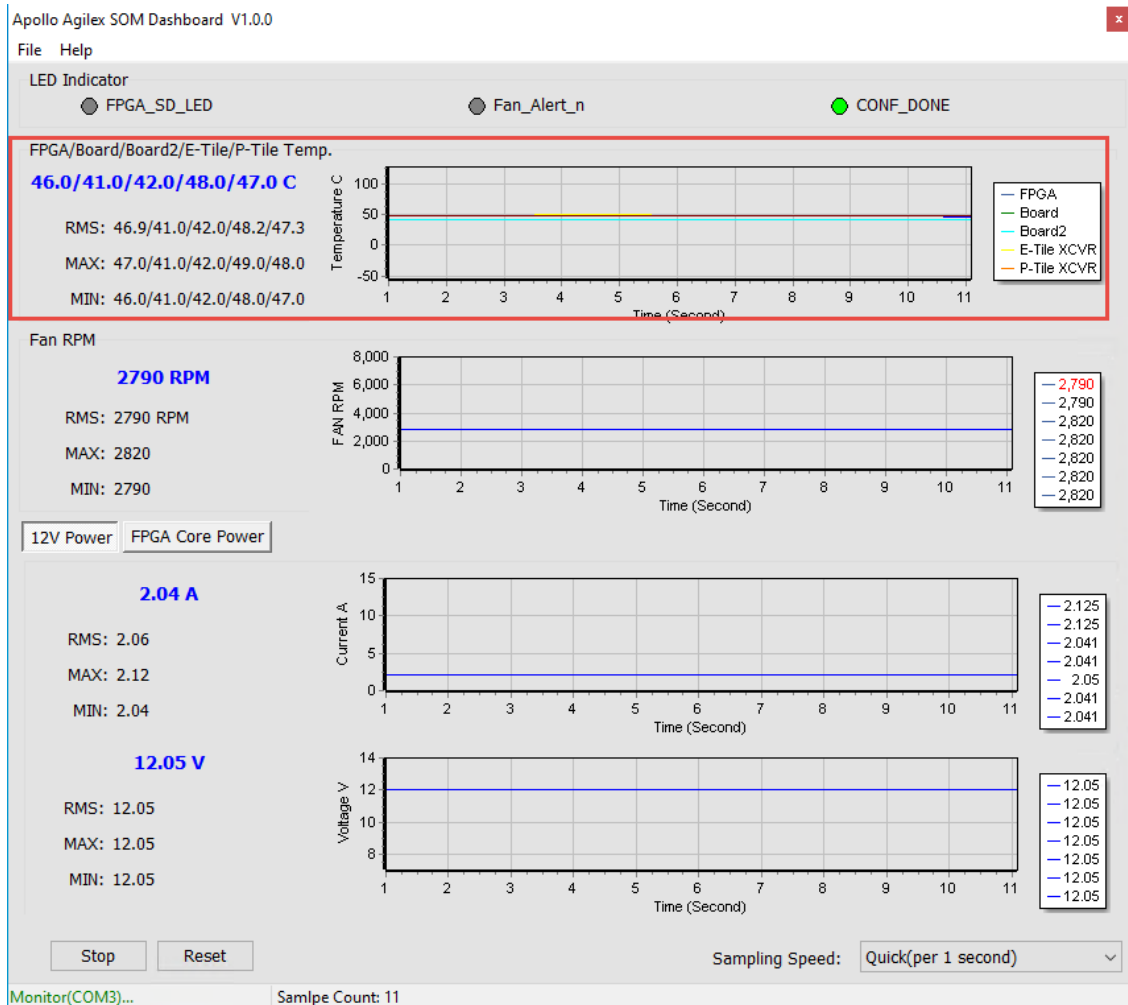

Figure 3-6 Temperature section
- **FPGA/Board/Transceivers(E-title and P-tile) Temperature:** The Dashboard GUI will real-time show the fan speed, Apollo Agilex board ambient and FPGA temperature. Users can know the board temperature in time. The information will be refreshed per 1 second, and displays through diagram and number, as shown in **Figure 3-6**.